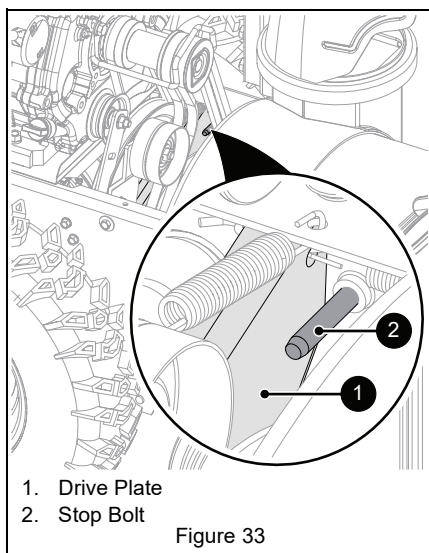

Figure 33
4. With traction clutch disengaged, check that the drive plate touches the stop bolt. See Figure 33.